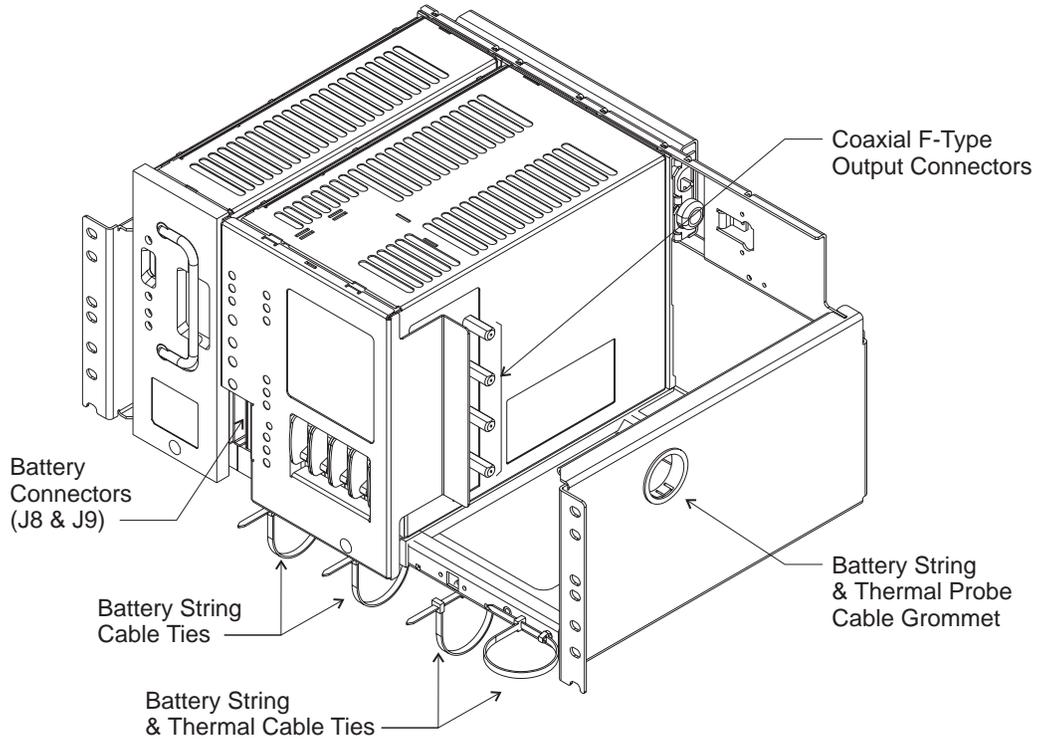

Figure 5-3: Cable Ties and Connecting Points
Use the battery connector on the BPS to connect a test load. (See Figure 5-3.) Set the test load to approximately 2 amperes. This test verifies that the rectifier(s) will support a load.
6. Route thermal probe cables and battery interconnect cables through cable ties on the front of the shelf. See Figure 5-3.